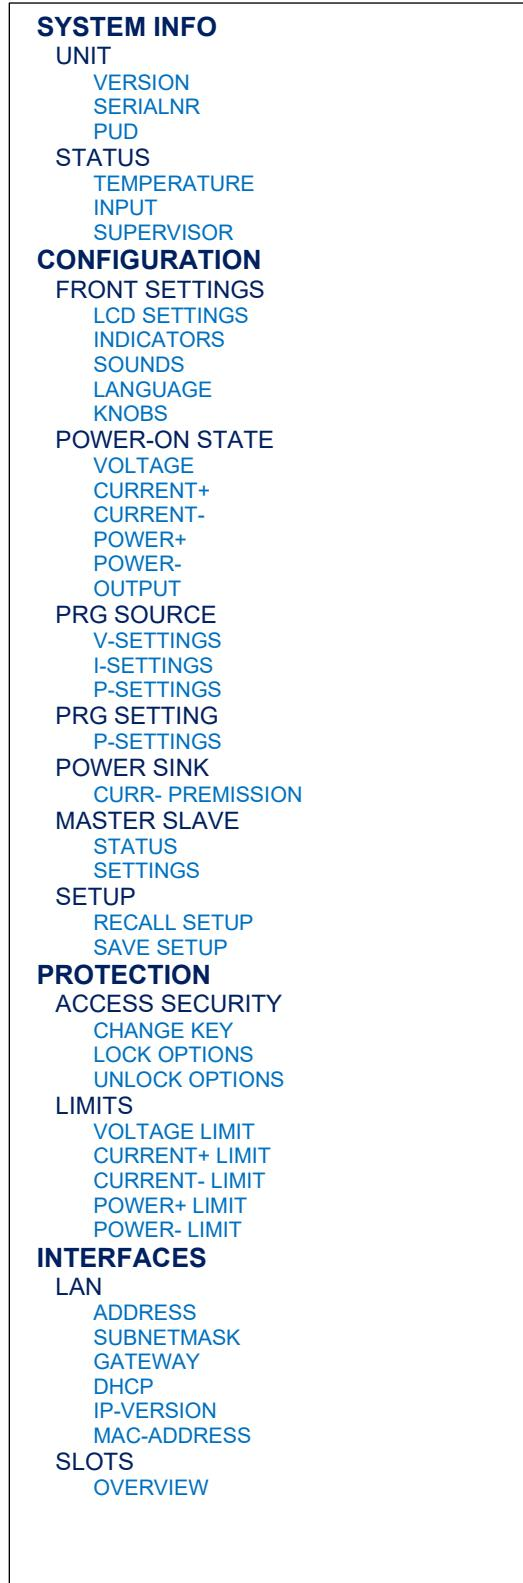

Figure 8.2: Menu tree structure.
- The overview in Figure 8.2 shows the tree structure of the main menu. Not all items are already implemented in the present firmware package. Regularly check the Delta Elektronika website for new releases. The unit can be updated with the latest package via the web interface.